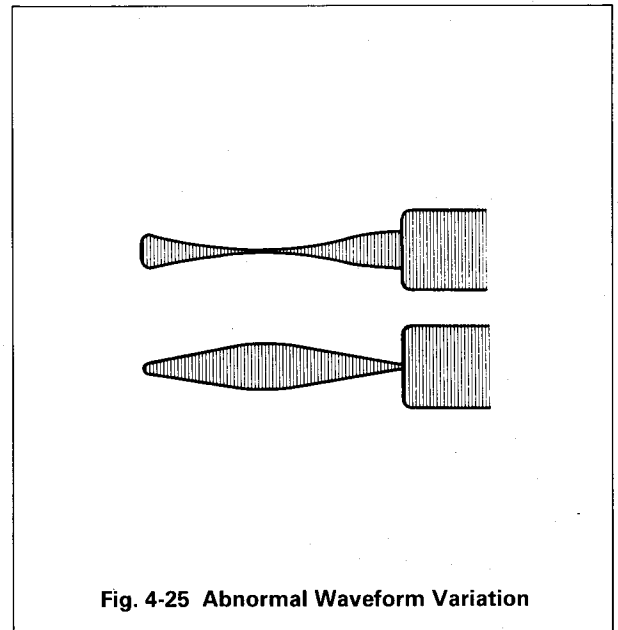

Fig. 4-25 Abnormal Waveform Variation
- D. If non-linear FM waveform occurs as shown in Fig. 4-25 adjustment is necessary.